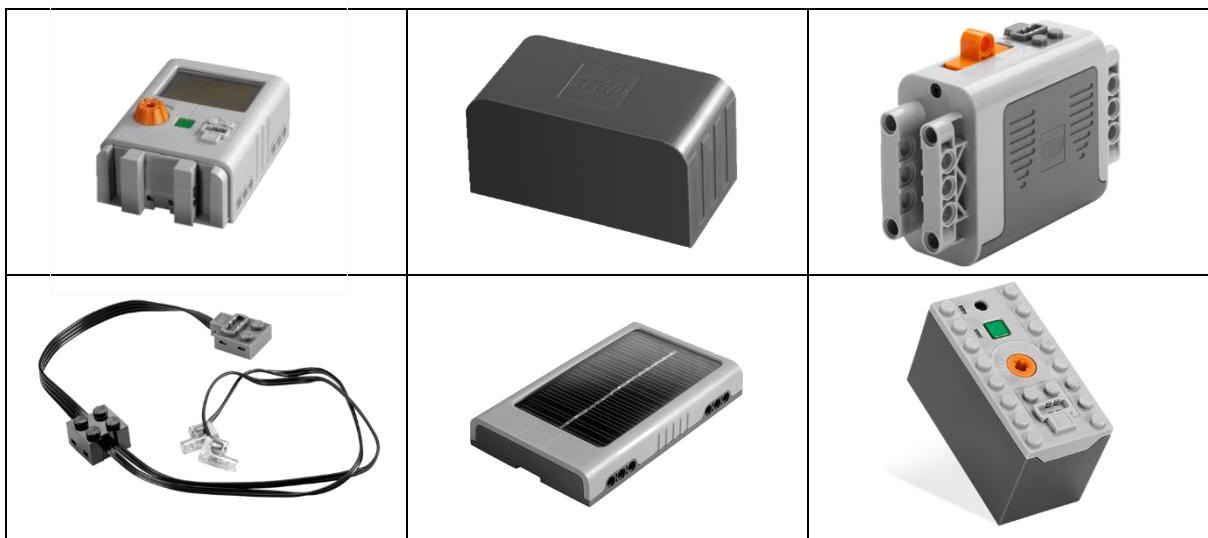

Figure 1.2
5.5 Other allowable LEGO® electric / electronic components are shown in Figure 1.2.